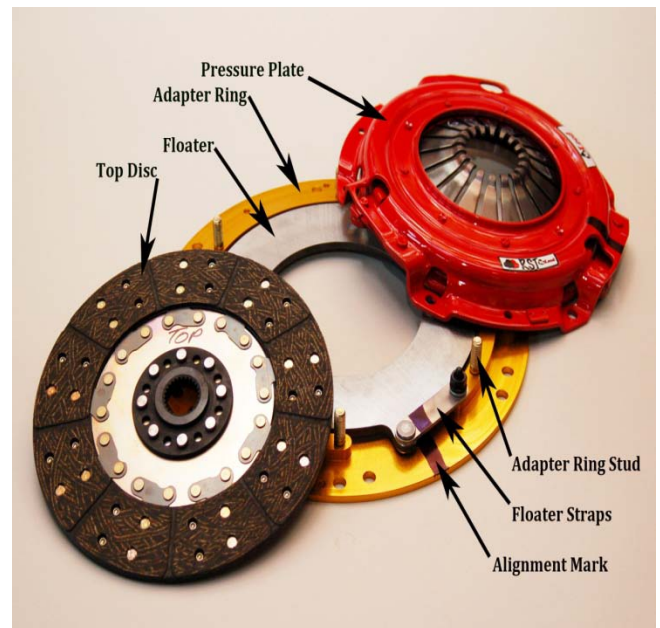

Figure 2
- 3) Lift off pressure plate and top disc from the adapter ring and set aside. Figure 2.